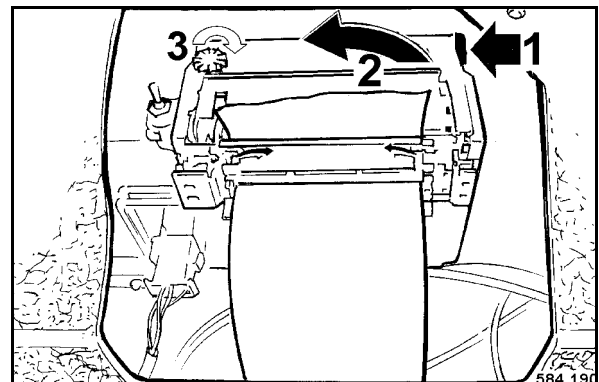

Fig. 108
- Lift the tongue at point 1 (Fig. 108) and take the printer ribbon (2) out of the printer.
- Insert the new printer ribbon into the printer, then press in the tongue (1) on the right.
- Tension the printer ribbon by turning the rotary button (3) in direction of arrow.